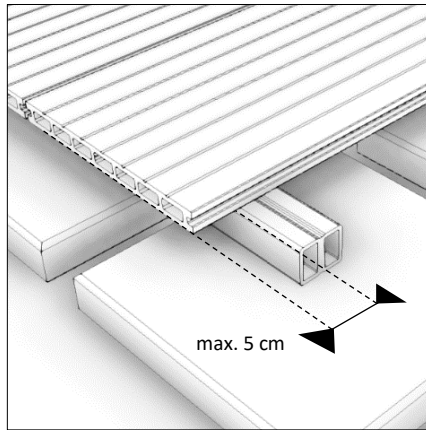

FIG. 6
- Each end of a decking board must be supported and attached. Preferably lay the ends of the decking parts flush with the joists. Although not preferred, an overhang of max. 5 cm over a joists is allowed (Fig. 6).